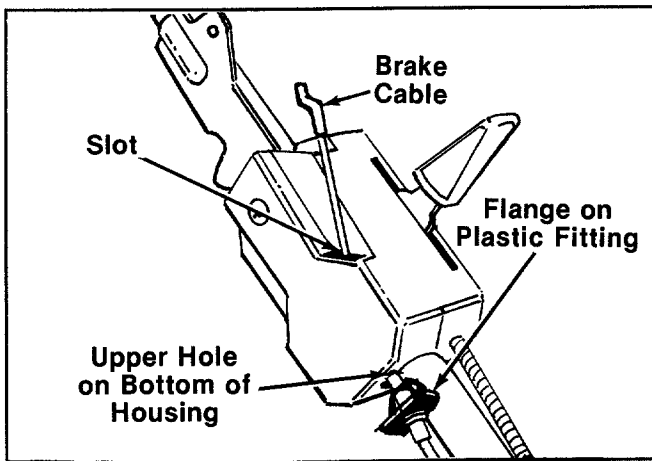

FIGURE 4.
6. Route the brake cable under the lower handle. Place end of cable into the upper hole on the bottom of the control housing, and through the slot as shown. The angle of the flange on the plastic fitting must be positioned as shown in figure 4. Be careful not to bend or kink the cable.